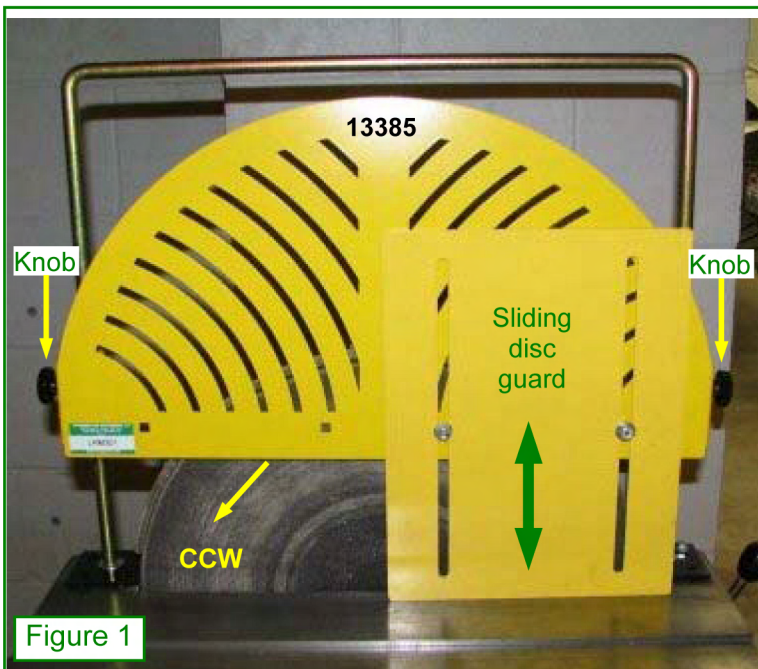

Figure 1
2. Locate the **13385** Upper Disc Guard Assembly on the sander. Raise guard about 6" above base plates and tighten both adjustment knobs as in Fig. 1.
10. Adjust the **13385** as shown in Figure 1. Raise guard, tighten the knobs, and expose only that part of disc necessary to perform work. **Call 1-800-879-7575 if you need assistance.**